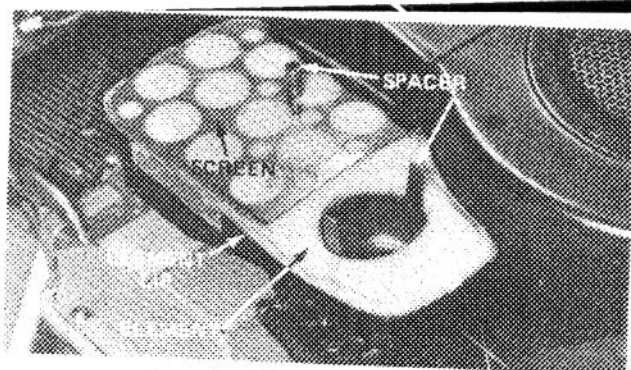

Figure 21
3. Remove cover and screen from foam element, remove spacers from element and element from body (Fig. 21). Examine element for dirt or discoloration and clean if necessary.